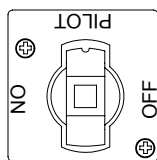
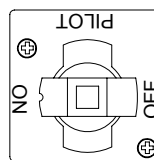

Figure 1
Figure 2
2. Rotate the gas valve knob to the PILOT position (see Figure 1).
4. With the pilot lit, push down and slowly turn the knob to the ON position (see Figure 2 on Page 3-1).
For short-term shut down during the workday, rotate the gas valve knob clockwise to the **PILOT** position (see Figure 1 on Page 3-1) and put the frypot covers in place (if the fryer is so equipped).
When shutting the fryers down at closing time, rotate the gas valve knob to the **PILOT** position (see Figure 1 on Page 3-1). Depress the gas valve knob and rotate slightly clockwise. Release and continue rotating clockwise to the **OFF** position (see Figure 2 on Page 3-1). Put the frypot covers in place (if the fryer is so equipped).